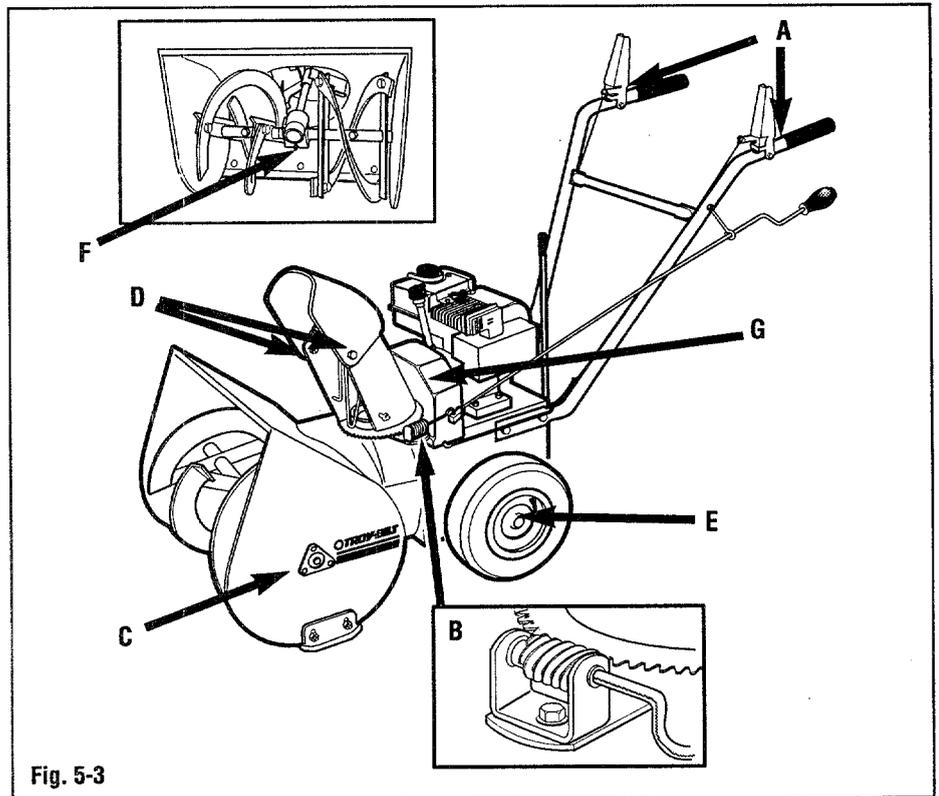

Fig. 5-3
1. Use clean engine oil or a silicone spray to lubricate the control lever pivot points (A, Fig. 5-3).
2. Clean any dirt off the worm gear and the toothed part of the flange (B) at the bottom of the discharge chute. Apply multi-purpose grease to the worm gear and the toothed part of the flange.
4. Use clean engine oil or a silicone spray to lubricate the deflector cap pivot points (D).
- a. Remove the drain plug (F) from the auger gear case: oil should just begin to flow out of the hole.
- c. Replace and tighten the drain plug (F) on the auger gear case.